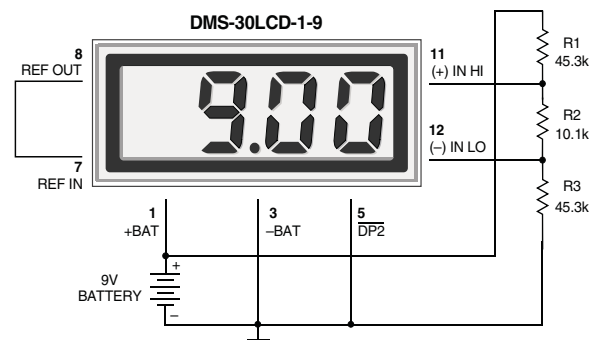

Figure 8. Power Supply Monitor (9V-Powered Models)
6. **Power Supply Monitoring:** A popular application for Murata Power Solutions' low-power LCD meters is monitoring the supply voltage in battery-operated portable equipment. Figure 8 demonstrates how a 9V-powered DMS-30LCD can be used to monitor its own supply. The meter used is the DMS-30LCD-1-9. A three-resistor voltage divider is used to attenuate the battery voltage and also to satisfy the requirement that the input voltages applied to pins 12 and 11 be at least 1.5 Volts above and below the battery voltage applied to pins 1 (+BATTERY) and 3 (-BATTERY). The divider should be designed so that 1/10th the battery voltage falls across the inputs to the meter: